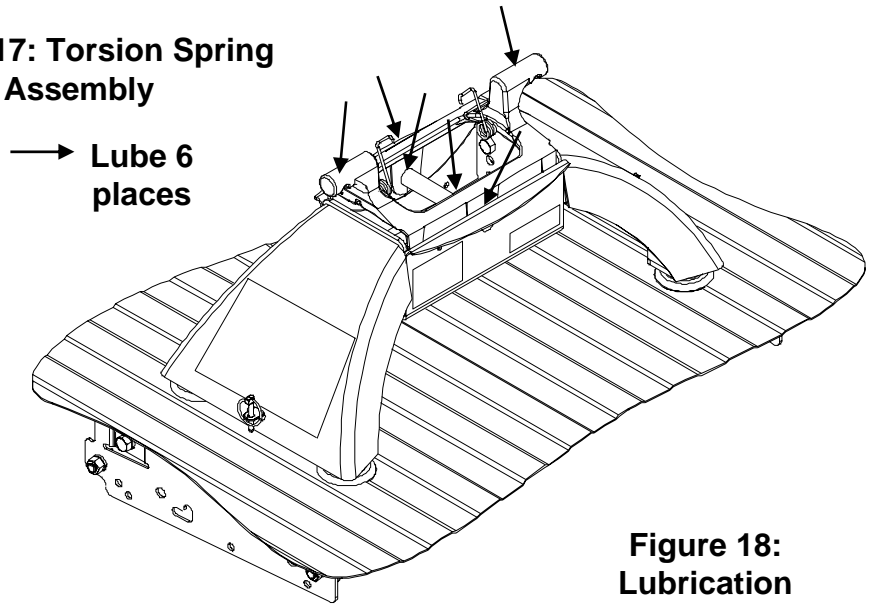

Figure 18: Lubrication Points
12. Lube center section as shown in **Figure 18** with lithium grease.